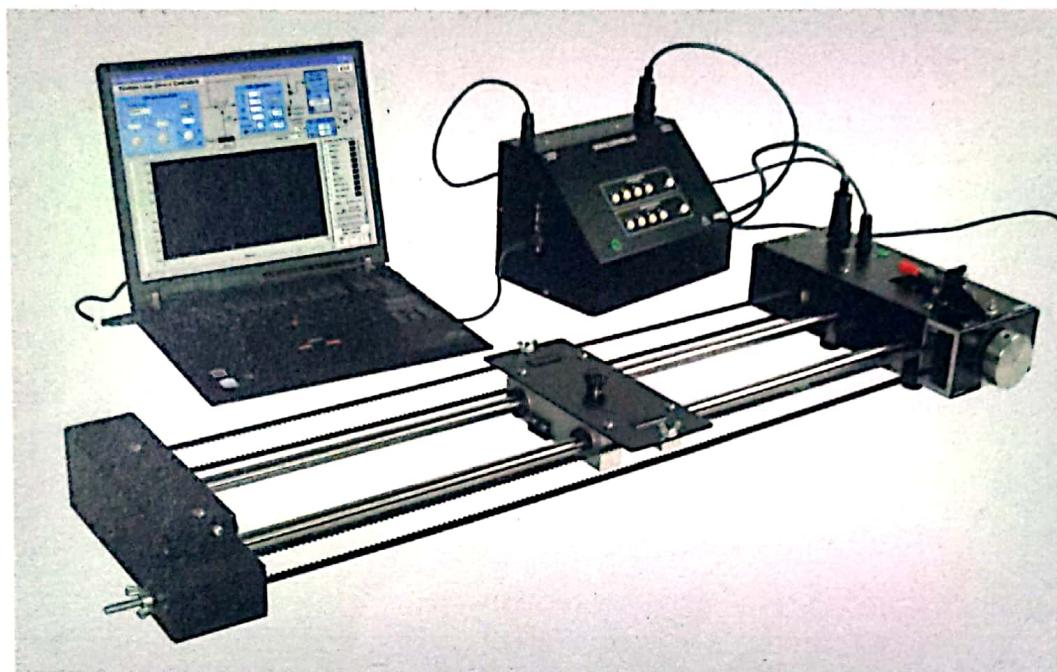

Figure 1. Digital Servo complete setup.
1. Setup the Digital Servo system as shown in Figure 1. The system consists of the mechanical unit, the servo controller and the computer.